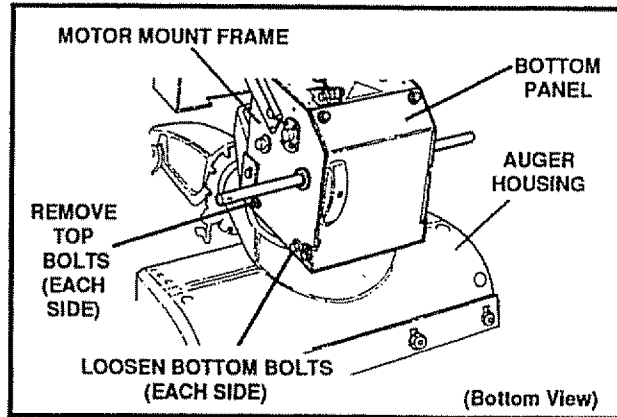
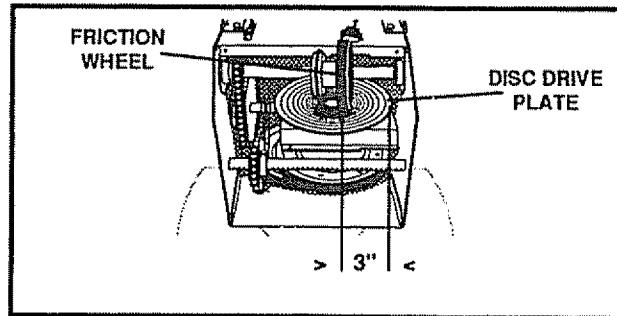

FIG. 30
FIG. 31A
- Remove top two bolts securing auger housing to motor mount frame. Loosen bottom two bolts. (See Fig. 30, page 21).
- Remove the bottom panel (See Fig. 30).
- Position the shifter lever in first (1) gear.
- Note the position of the friction wheel on the disc drive plate. The right outer side of the disc drive plate should be 3" from the center of the friction wheel (See Fig. 31A).
- Move friction wheel to proper position as indicated in previous step (Fig. 31A).
- Remove the bottom panel (See Fig. 30, page 21).